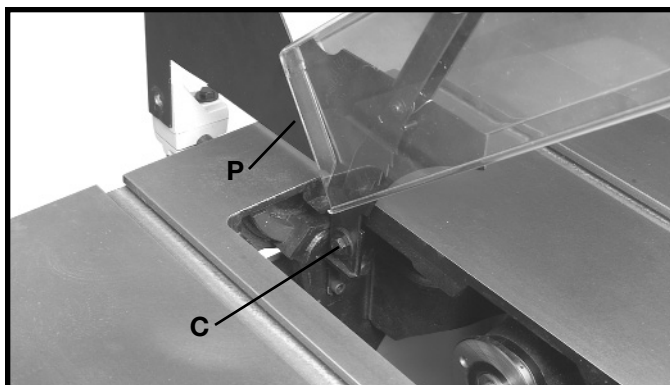
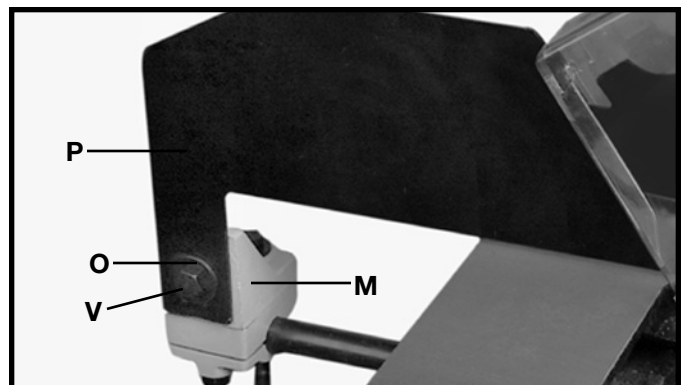

Fig. 16
Fig. 17
8. Insert the front end of splitter (P) Fig. 16, inside the splitter mounting bracket behind splitter fastener plate and screw (C). Push splitter down as far as possible, making certain the bottom edge of splitter (P) is parallel with the table surface. Tighten screw (C) Fig. 16. Fasten splitter and blade guard assembly (P) Fig. 17, to bracket (M) using an M8x1.25x25mm hex head screw (V) and M8.1 flat washer (O).